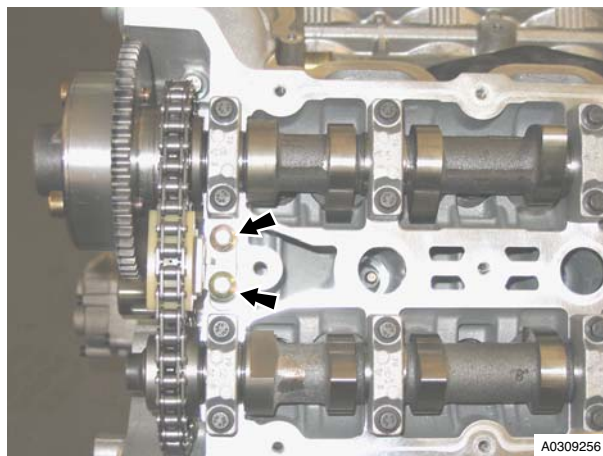

Figure 2
4. Remove the two M6 bolts that attach the secondary timing chain tensioner to the cylinder head (refer to Figure 2).